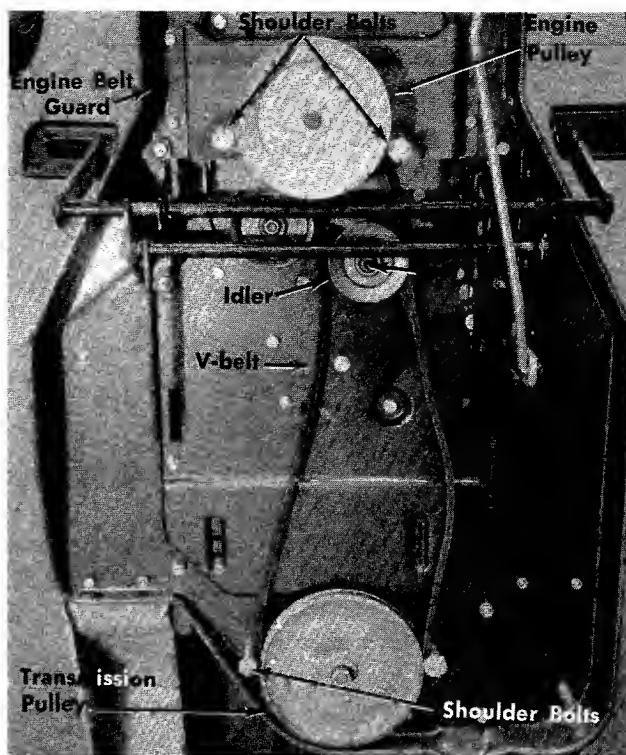

FIGURE 28.
2. Remove the two shoulder bolts on the engine pulley. See figure 28.
1. Remove the two shoulder bolts from the engine pulley. See figure 28.
4. Remove the engine belt guard. See figure 28.
5. Remove the nut on the V-idler and slide the idler off the bracket. See figure 28.
6. Remove the two shoulder bolts on the transmission pulley. See figure 28.